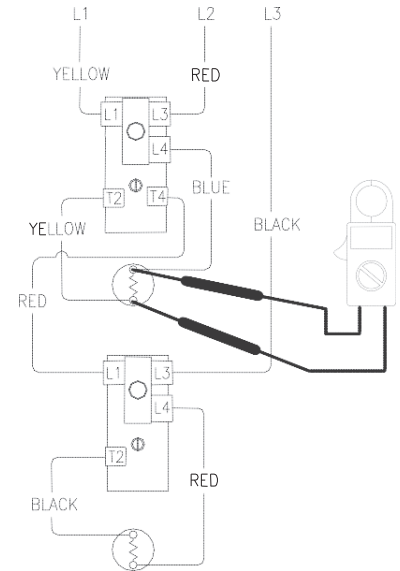

Figure 14
5. Check across element terminals (see Figure 14).